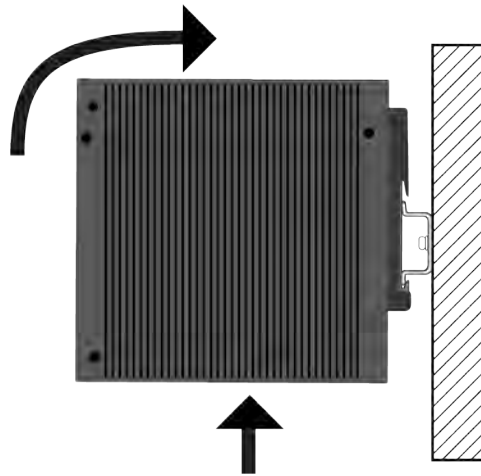

Figure 25. Installing the Switch on a DIN Rail - 2
3. Press upwards on the bottom panel of the switch to compress the springs on the DIN rail bracket, and pivot the switch until vertical. Refer to Figure 25.